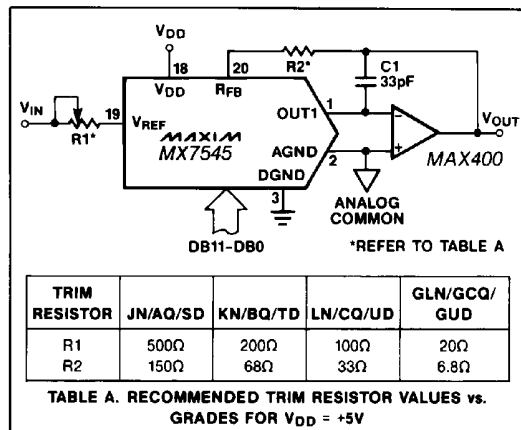
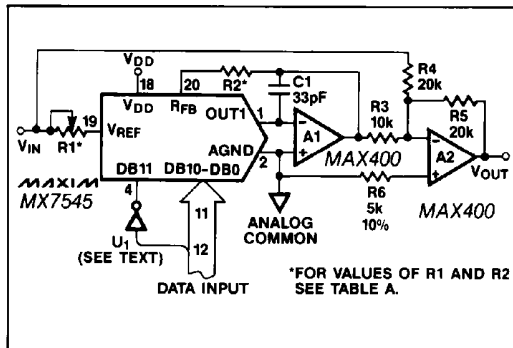
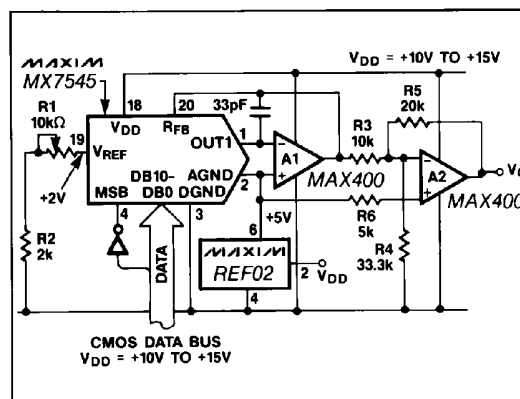

Figure 3. Unipolar Binary Operation
Figure 4. Bipolar Operation (2's Complement Code)
Figure 8. Single Supply "Bipolar" 2's Complement D/A Converter
**Note 1:** Using internal feedback resistor, RFB. DAC register loaded with 1111 1111 1111. Gain error is adjustable using the circuits of Figures 3, 4 and 8.
Either current output can be converted into a voltage externally by adding an output amplifier (Figure 3). The  $V_{REF}$  input accepts a wide range of signals including fixed and time varying voltage or current inputs. If a current source is used for the reference input, then a low temperature coefficient external resistor should be used for  $R_{FB}$  to minimize gain variation with temperature.
The most common configuration for the MX7545 is shown in Figure 3. This circuit is used for unipolar binary operation or two-quadrant multiplication. The
**Table 1. Unipolar Binary Code Table for Circuit of Figure 3**
In many applications the gain adjustment will not be necessary, especially when using the "G" suffix parts with guaranteed maximum  $\pm 1$  LSB gain errors. In those cases and also when the gain is trimmed at the reference source, resistors R1 and R2 in Figure 3 can be omitted. However, if the trims are desired and the DAC is operated over a wide temperature range, then low tempco ( $<300ppm/^{\circ}C$ ) resistors should be used for R1 and R2.
With the circuit configuration shown in Figure 4, the MX7545 operates in the bipolar, or 4-quadrant multiplying mode. A second amplifier and three matched resistors, R3, R4 and R5 are required. These resistors must be of the same material (preferably metal film or wire-wound) for good temperature characteristics, and they should match to 0.01% for 12-bit performance.
Table 2. 2's Complement Code Table for Circuit of Figure 4
To adjust the circuit with offset binary code, load the DAC with a code of 1000 0000 0000 and trim R1 for a 0V output. With R1 and R2 omitted, an alternative zero trim is to adjust the ratio of R3 and R4 for 0V out. Full scale can be trimmed by loading the DAC with all "zeros" or all "ones" and adjusting the amplitude of  $V_{REF}$  or varying R5 until the desired positive or negative output is obtained. In many applications the gain adjustment will not be necessary, especially when using the "G" suffix parts with guaranteed maximum  $\pm 1$  LSB gain errors. In those cases and also when the gain is trimmed at the reference source, resistors R1 and R2 in Figure 4 can be omitted. However, if the trims are desired and the DAC is operated over a wide temperature range, then low tempco ( $< 300$ ppm/ $^{\circ}$ C) resistors should be used for R1 and R2.
The unipolar and bipolar circuits in Figures 3 and 4 can all be converted to voltage output mode. For example, Figure 8 shows the 2's complement bipolar circuit of Figure 4 modified to work with an output range of +2V to +8V around an offset ground potential of +5V from a single supply,  $V_{DD}$ , of +10V to 15V. The REF02 reference is used to bias the AGND at +5V. The R1 and R2 resistors form a voltage divider together
Figure 7. Differential Nonlinearity vs. Reference Voltage for Figure 4 Circuit.  $V_{DD} = 15$  Volts. Shaded Area Shows Range of Values of Differential Nonlinearity that Typically Occur for L, C, and U Grades.
Figure 6. Differential Nonlinearity vs.  $V_{DD}$  for Figure 4 Circuit. Reference Voltage = 2.5 Volts. Shaded Area Shows Range of Values of Differential Nonlinearity that Typically Occur for L, C and U Grades.